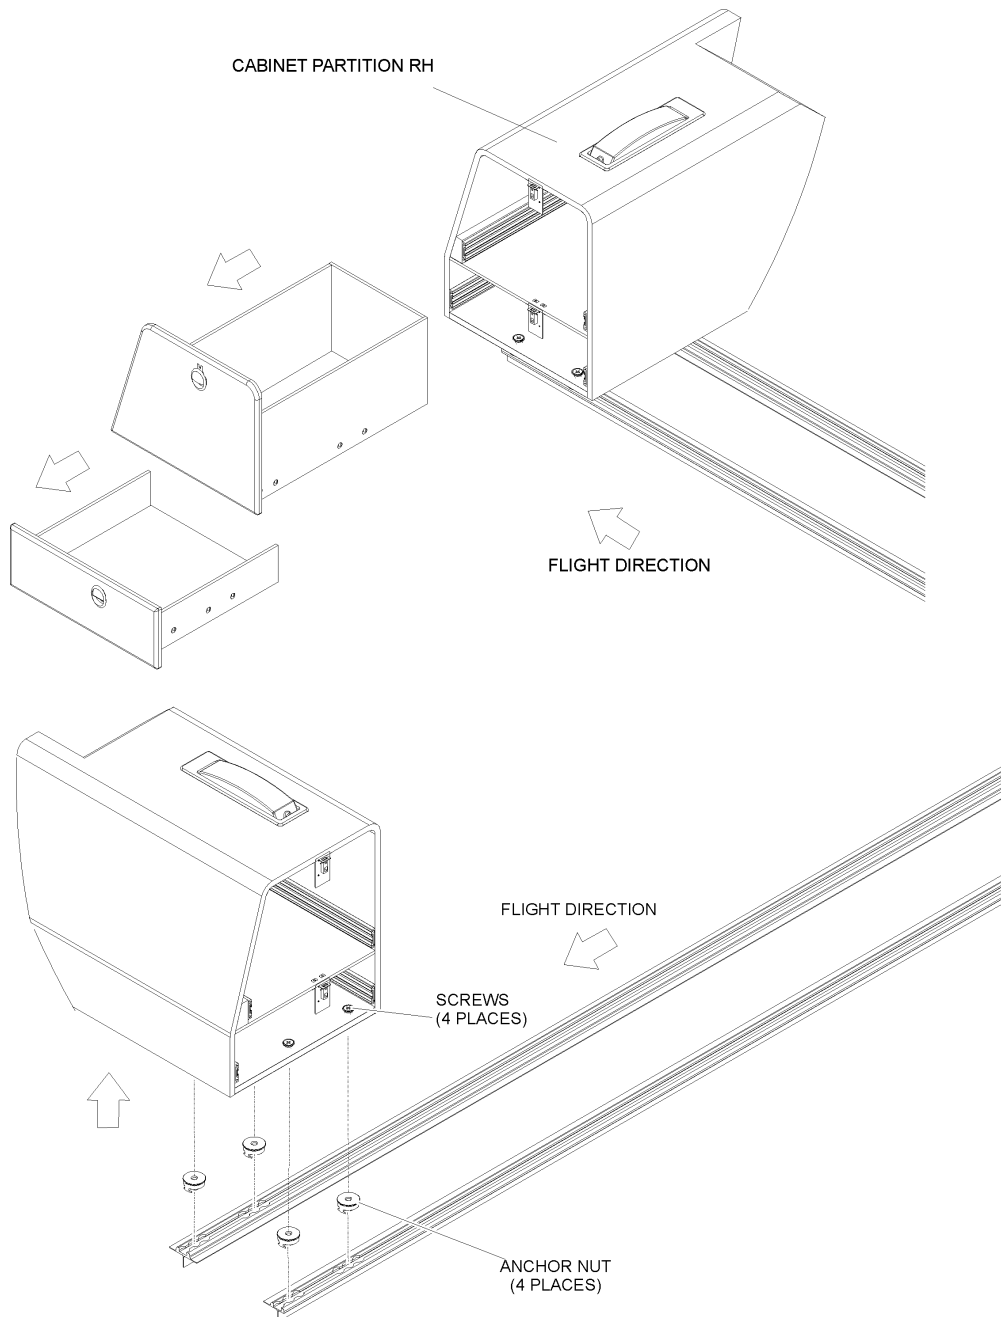

Fig. 208 - Cabinet Partition RH (Ferry Flight Configuration) - Removal
12. Cabinet Partition RH (Ferry Flight Configuration) - Removal(Ref. to Fig. 208)